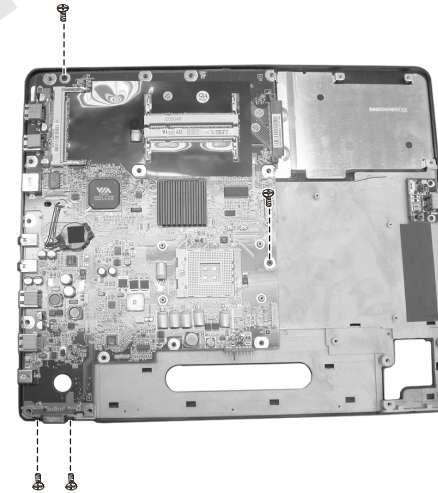

Figure 2-27 Free the system board
3. Remove the four screws fastening the system board and free the system board. (Figure 2-27)